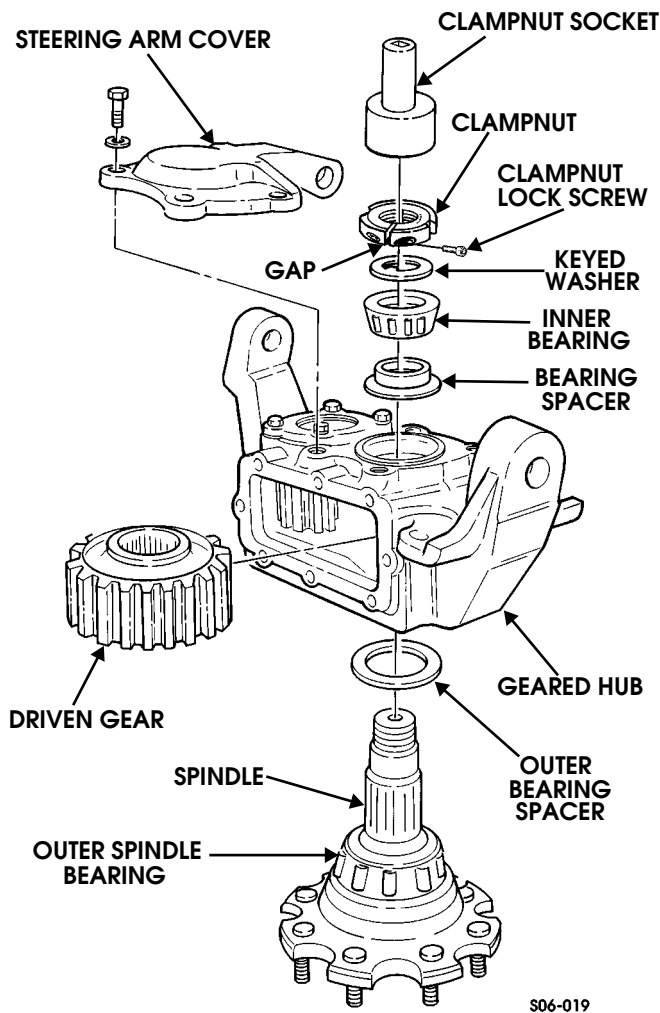

Figure 9-31: Geared Hub Driven Gear Installation
8. Install driven gear and bearing spacer in geared hub (Figure 9-31).